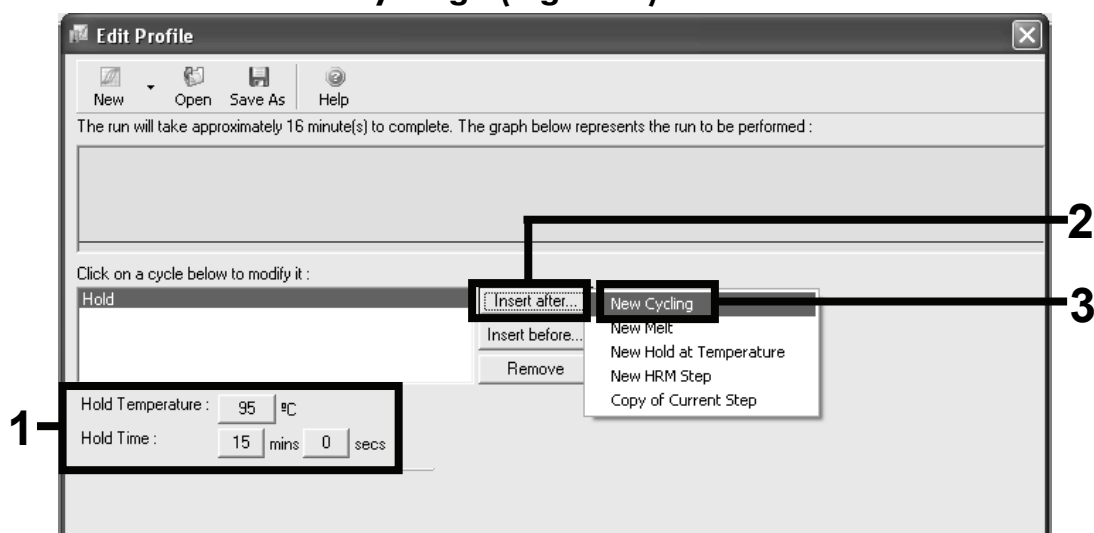

Figure 5. Initial incubation step at 95°C.
14. Click “60°C” and change the “Hold Temperature” to 95°C, click “1” to change the “Hold Time” to 15 mins. Click the “Insert After” button and then select “New Cycling” (Figure 5).